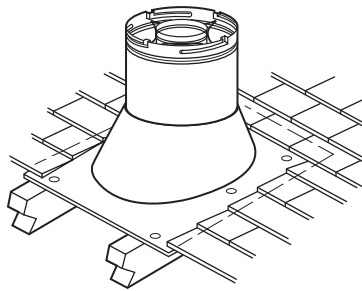

Figure 25
I. Install the roof flashing - Extend the vent sections through the roof structure. Install the roof flashing over the vent section and position such that the vent column rises vertically (use carpenter's level) (*Figure 25*). Nail along perimeter to secure flashing or adjust roofing to overlap the flashing edges at top and sides only and trim where necessary. Seal the top and both sides of the flashing with waterproof caulking.